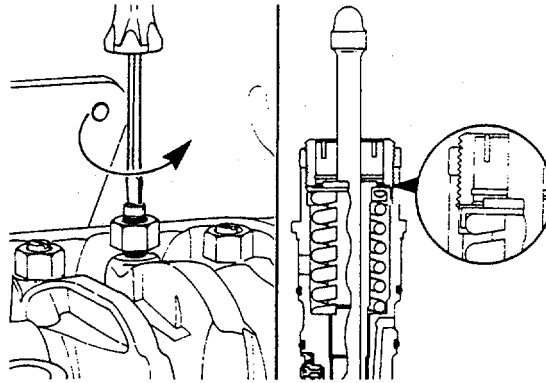

FIGURE 2-36. Loosening Injector Adjusting Screw.
- (e) Loosen the injector adjusting screw until the injector spring retainer washer touches the top-stop screw (Figure 2-36).
- (d) Hold the adjusting screw in this position. The adjusting screw must not turn when the lock nut is tightened (refer to Figure 2-36). Tighten the lock nut to the following value: